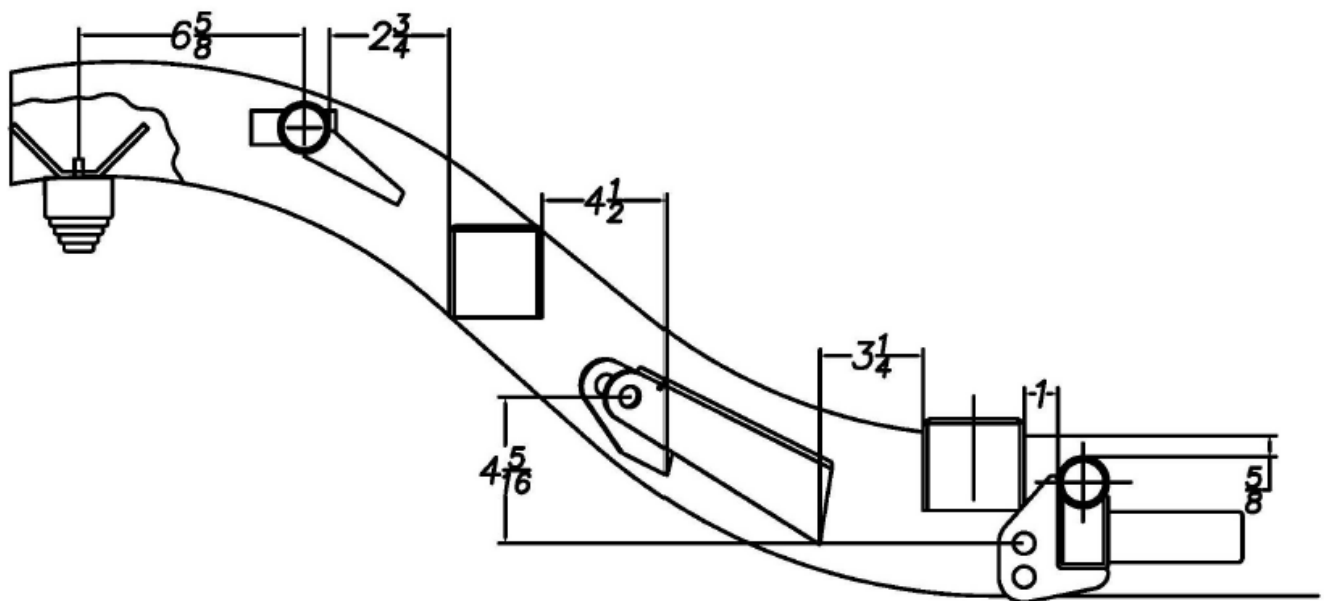

Figure 3- Lower Crossmember Install
2. Install the lower crossmember. The crossmember is to be located 1" from the body mount and the top of the crossmember is 5/8" down from the top of the frame rail, as shown in **Figure 3**. You may have to trim the edges to fit between your frame rails (they vary from car to car). If so, make sure you trim an equal amount on both sides of the lower crossmember. Be sure the sides are exactly vertical. Tack weld in place.
3. Mock up the suspension using the 4 link bars to locate the triangulated frame mounts. Adjust pinion angle until it is correct—2° down. The center of the hole (marked "Hole A" in **Figure 3**) should be **exactly 4-5/16"** measured vertically from the center of the top hole on the lower crossmember. **This is extremely important in order to maintain proper suspension geometry. Do not modify this dimension.**
4. Once the lower crossmember and the triangulated frame mounts are in place and while the suspension is mocked up, temporarily install the coil-over shocks. Front-to-back, they should be vertical, while at an inward angle when viewed from the front, as shown in the pictorial view below. This should give the approximate position of the upper crossmember. Make sure the shock mounts on the crossmember are level, and that the crossmember is located as shown in **Figure 3**. Tack weld in place.
5. Take out shocks and push the axle housing all the way until it reaches the frame. This is where the bump stop mounts are to be located. Tack weld them so that the bottom of the mounts are approximately flush with the bottom of the frame (on the outside of the frame rails) A reference dimension is given in **Figure 3**, to give an idea of where it should be, but it is more important that it is located by where the axle housing would hit the frame.